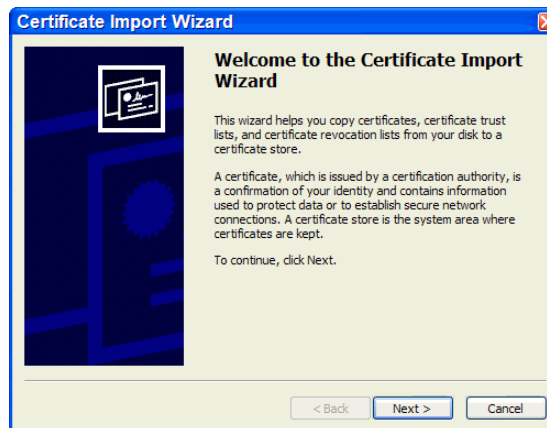

Figure 53 Welcome to Certificate Import Wizard dialog box
- 5 In the Certificate Information dialog box, click **Install Certificate**. A Welcome to Certificate Import Wizard dialog box (Figure 53) is displayed.